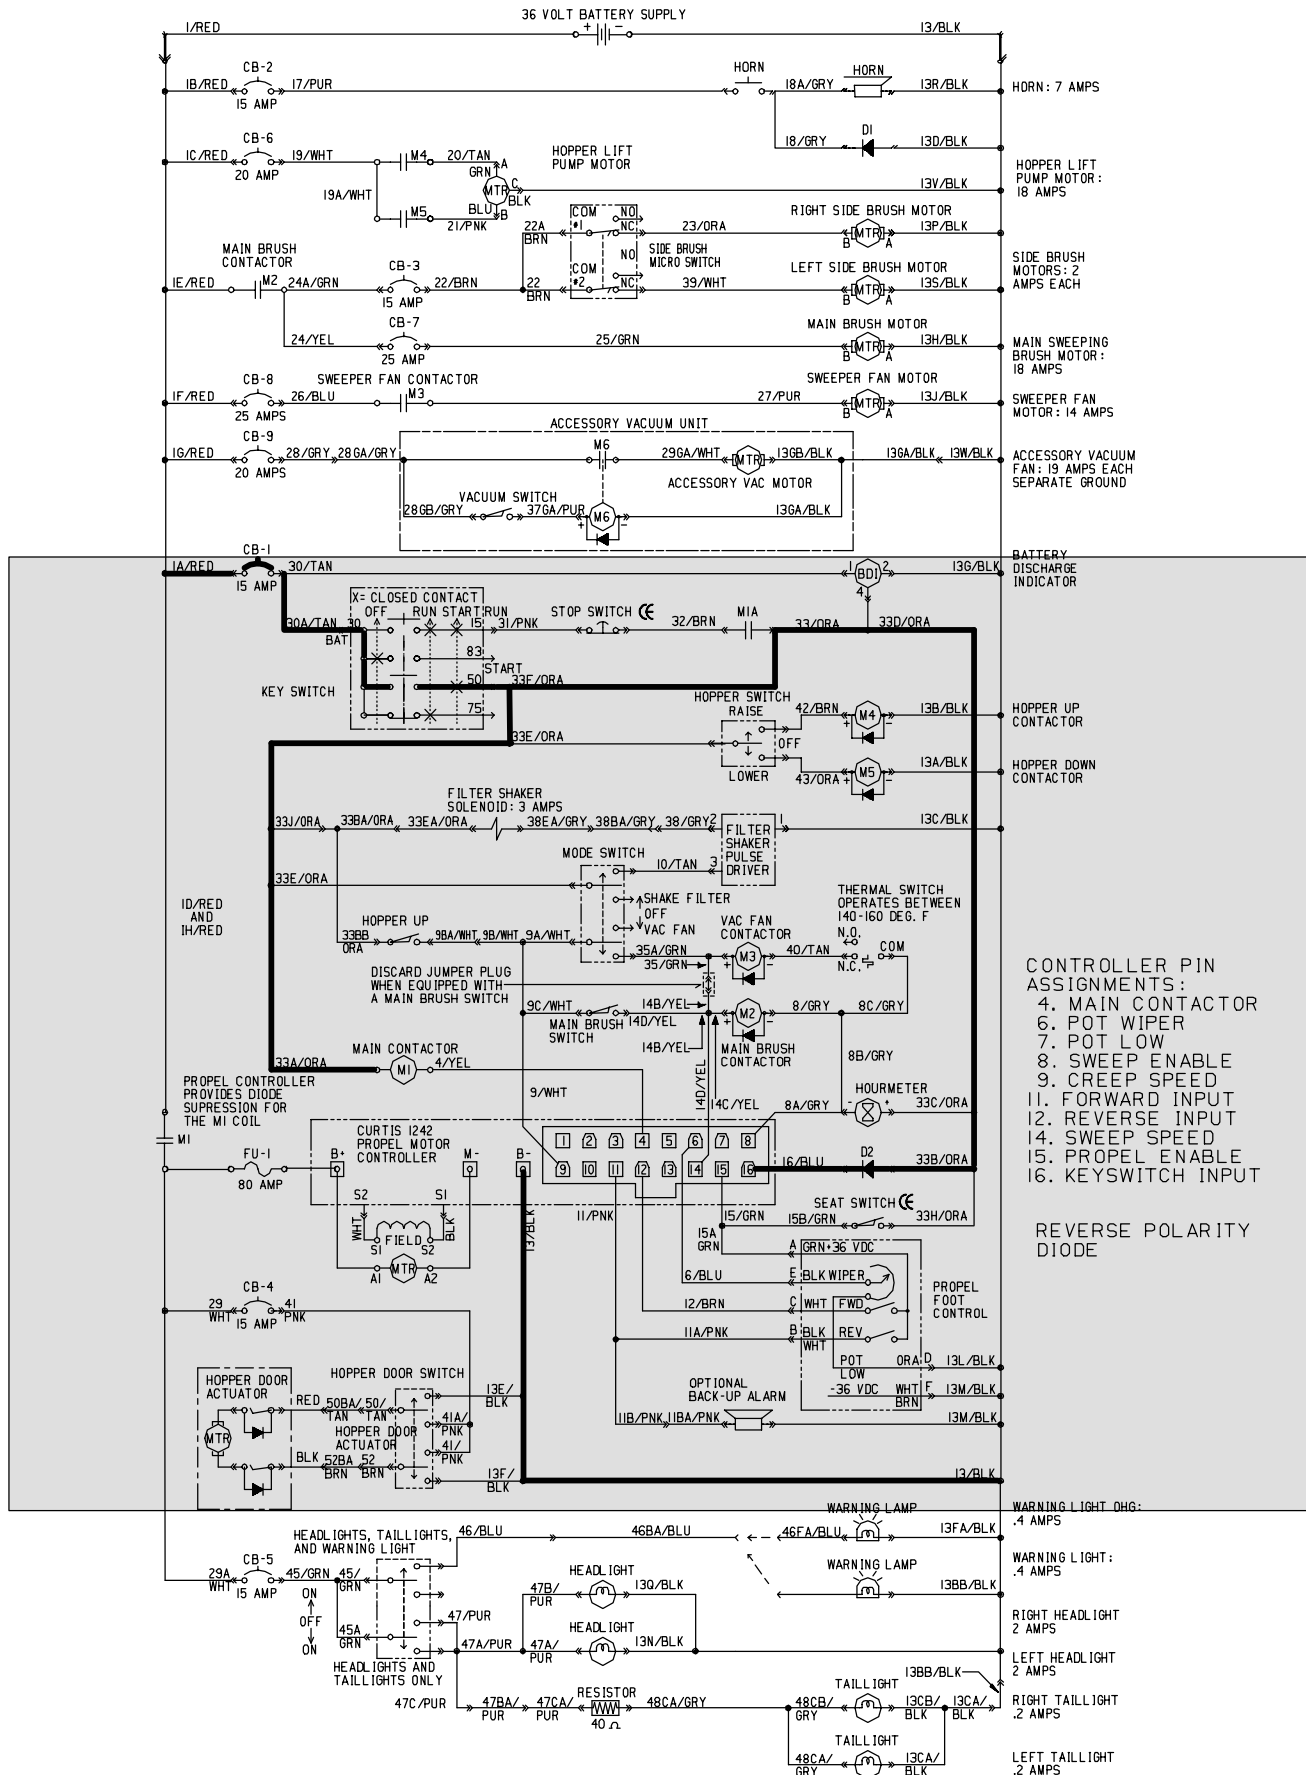

Fig. 1
1. Key switch provides +36 volts to the M1 coil and pin 16 at the motor controller start circuit. (see Fig. 1)